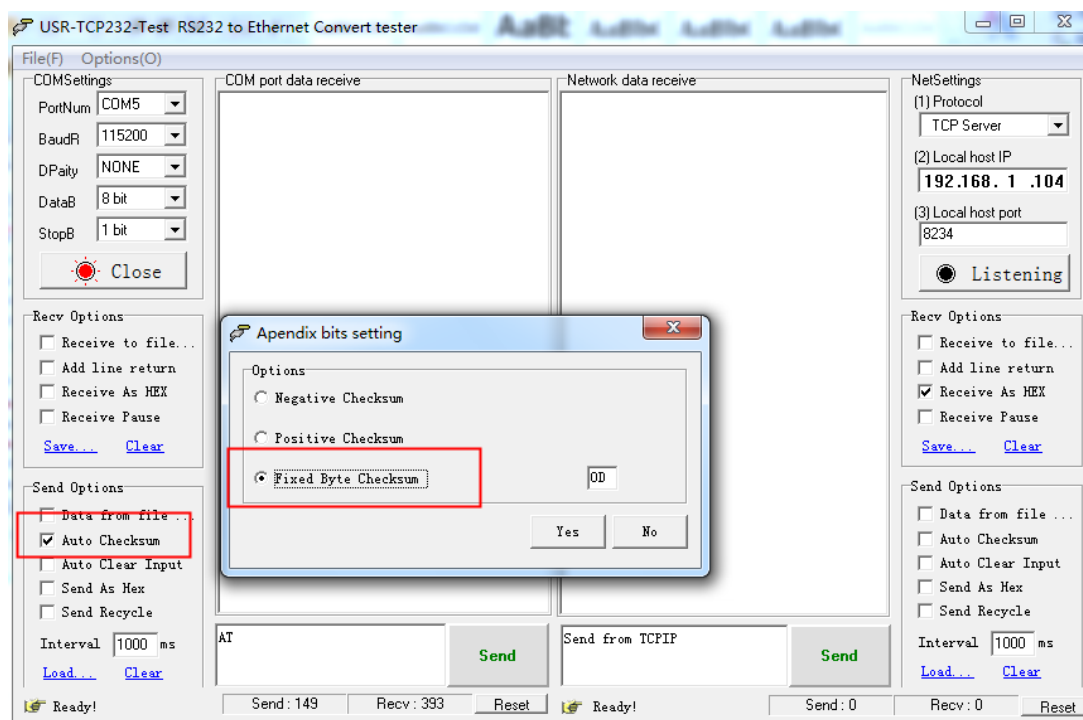

Figure 5: Data transmission settings
- ② Check the option **Auto Checksum**. Then, an **Appendix bits setting** option box will pop up. Select the option **Fixed Byte Checksum**, and fill in the small box on the right of the option with 0D, since the ASCII code of 0D is CR, so that there will be an auto CR for each command transmission. The detailed settings are shown in Figure 5.